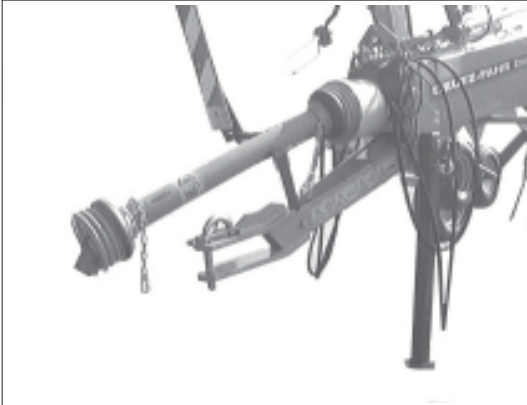

Fig. 3-1
- Bottom link height: set to approx. 40 mm from the ground (fig. 3-1).